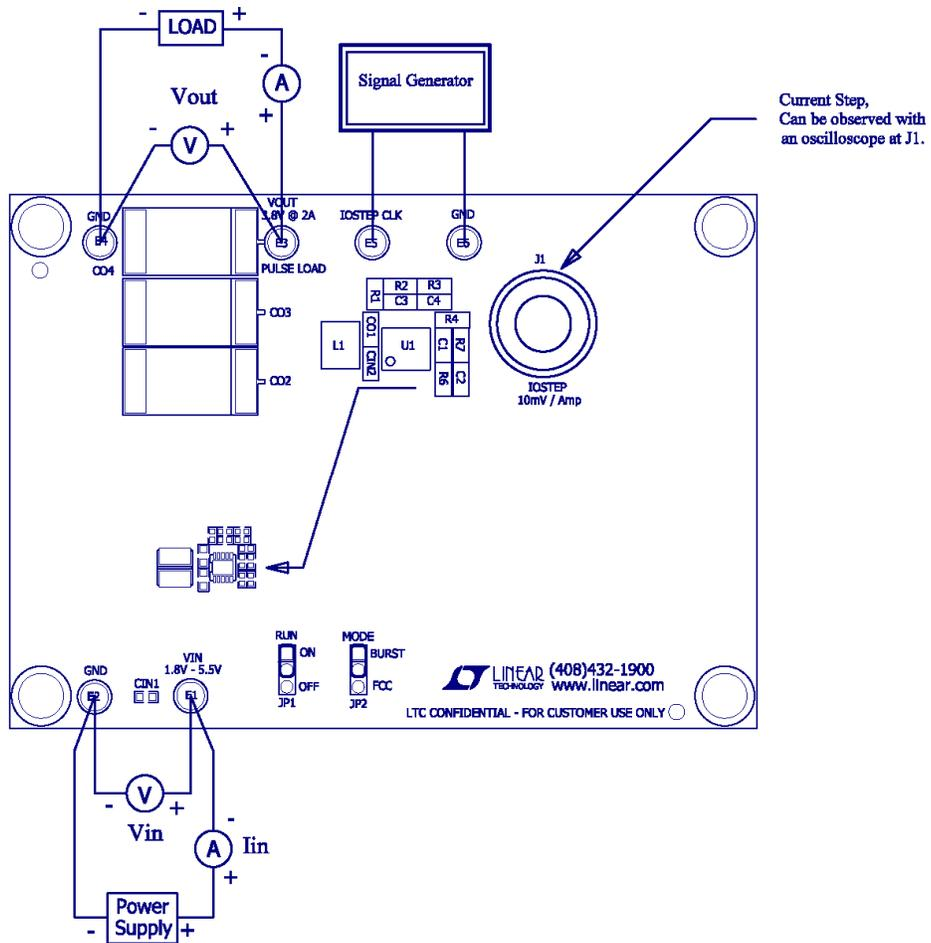

Figure 1. Connection Diagram
Using short twisted pair leads for any power connections and with all loads and power supplies off, refer to Figure 1 for the proper measurement and equipment setup. The Power Supply (PS) should not be connected to the circuit until told to do so in the procedure below.
Demonstration circuit 1451A can be setup for simple evaluation of pulse loads – please see optional circuit (Dynamic Load Circuit) in Figure 1 and Figure 4 for proper setup. The circuit is capable of pulsed loads of up to 2A with duty cycles up to 15%. Starting from step 7 in the quick start procedure above, follow the procedure below:
8. Connect Signal Generator with an adjustable output amplitude between IOSTEP CLK and GND as shown in Figure 1. Adjust the signal generator output to produce a pulse of 2A as measured at J1 (IOSTEP, 10mV/DIV) with an ON time of 576 μ S and a period of 4.6 mS shown in Figure 3. Adjust the period and duty cycle of this signal to match that of the required load prior to attaching the pulse generator. The amplitude can vary but is approximately 2Vpp for a 2A step. Oscilloscope termination should be 1M Ω .